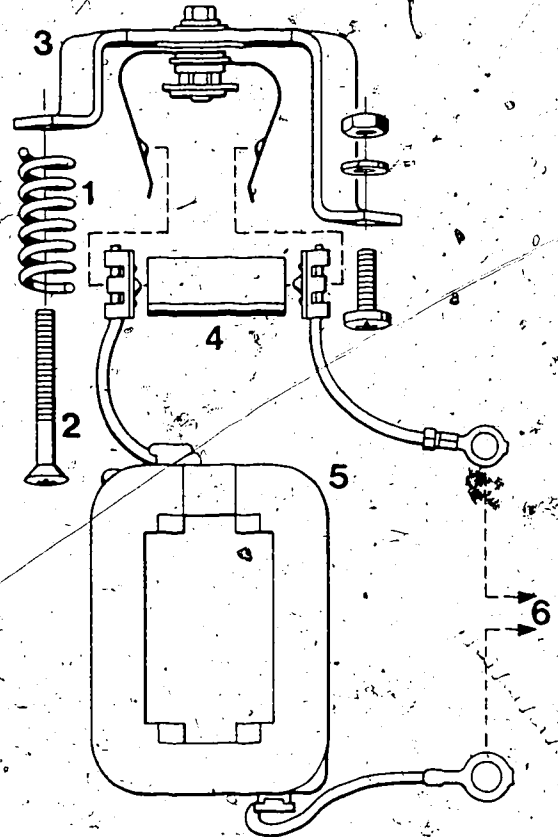
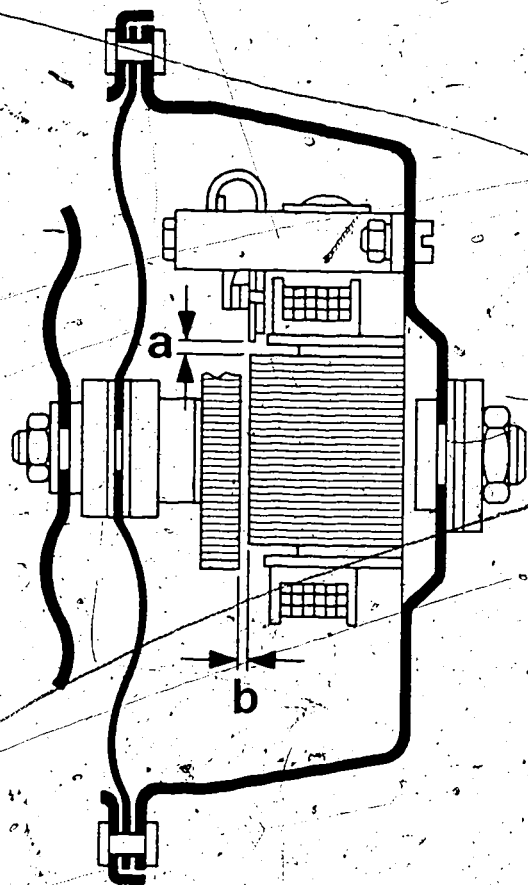

Fig. 1
Fig. 2
2. Attach the capacitor to a new contact breaker and screw the contact breaker into place (Fig. 1). When doing this, be sure to maintain a spacing of $a = 1.0 \text{ mm} \pm 0.5$ between the iron solenoid core and the resitex contact breaker plate (Fig. 2). If necessary, adjust this spacing by bending the contact breaker support bracket. Attach the cables in the horn as in the original design, using adhesive 5 703 210 150.